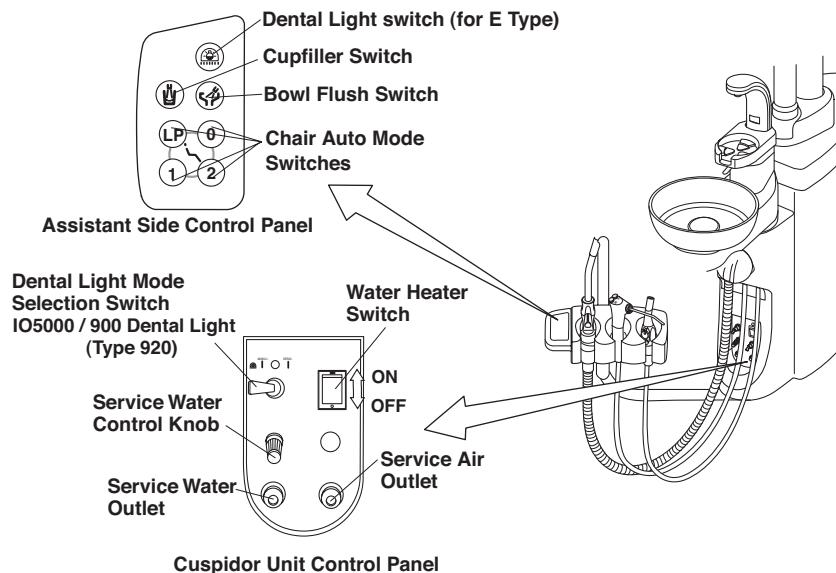

Fig.3-22 Assistant Side Control Panel and Cuspidor Unit Control Panel
(1)Assistant Side Control Panel (Fig.3-22)
(2) Cuspidor Unit Control Panel (Fig.3-22)
B. Water Heater Switch (Fig.3-22)
C. Service Water Outlet (Fig.3-22)
D. Service Water Outlet Control Knob (Fig.3-22)
E. Service Air Outlet (Optional)(Fig.3-22)